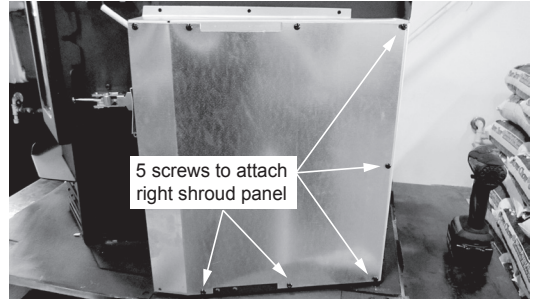

Figure 21.6
9. Attach the right panel assembly using 4 screws to appliance (**Figure 21.6**).